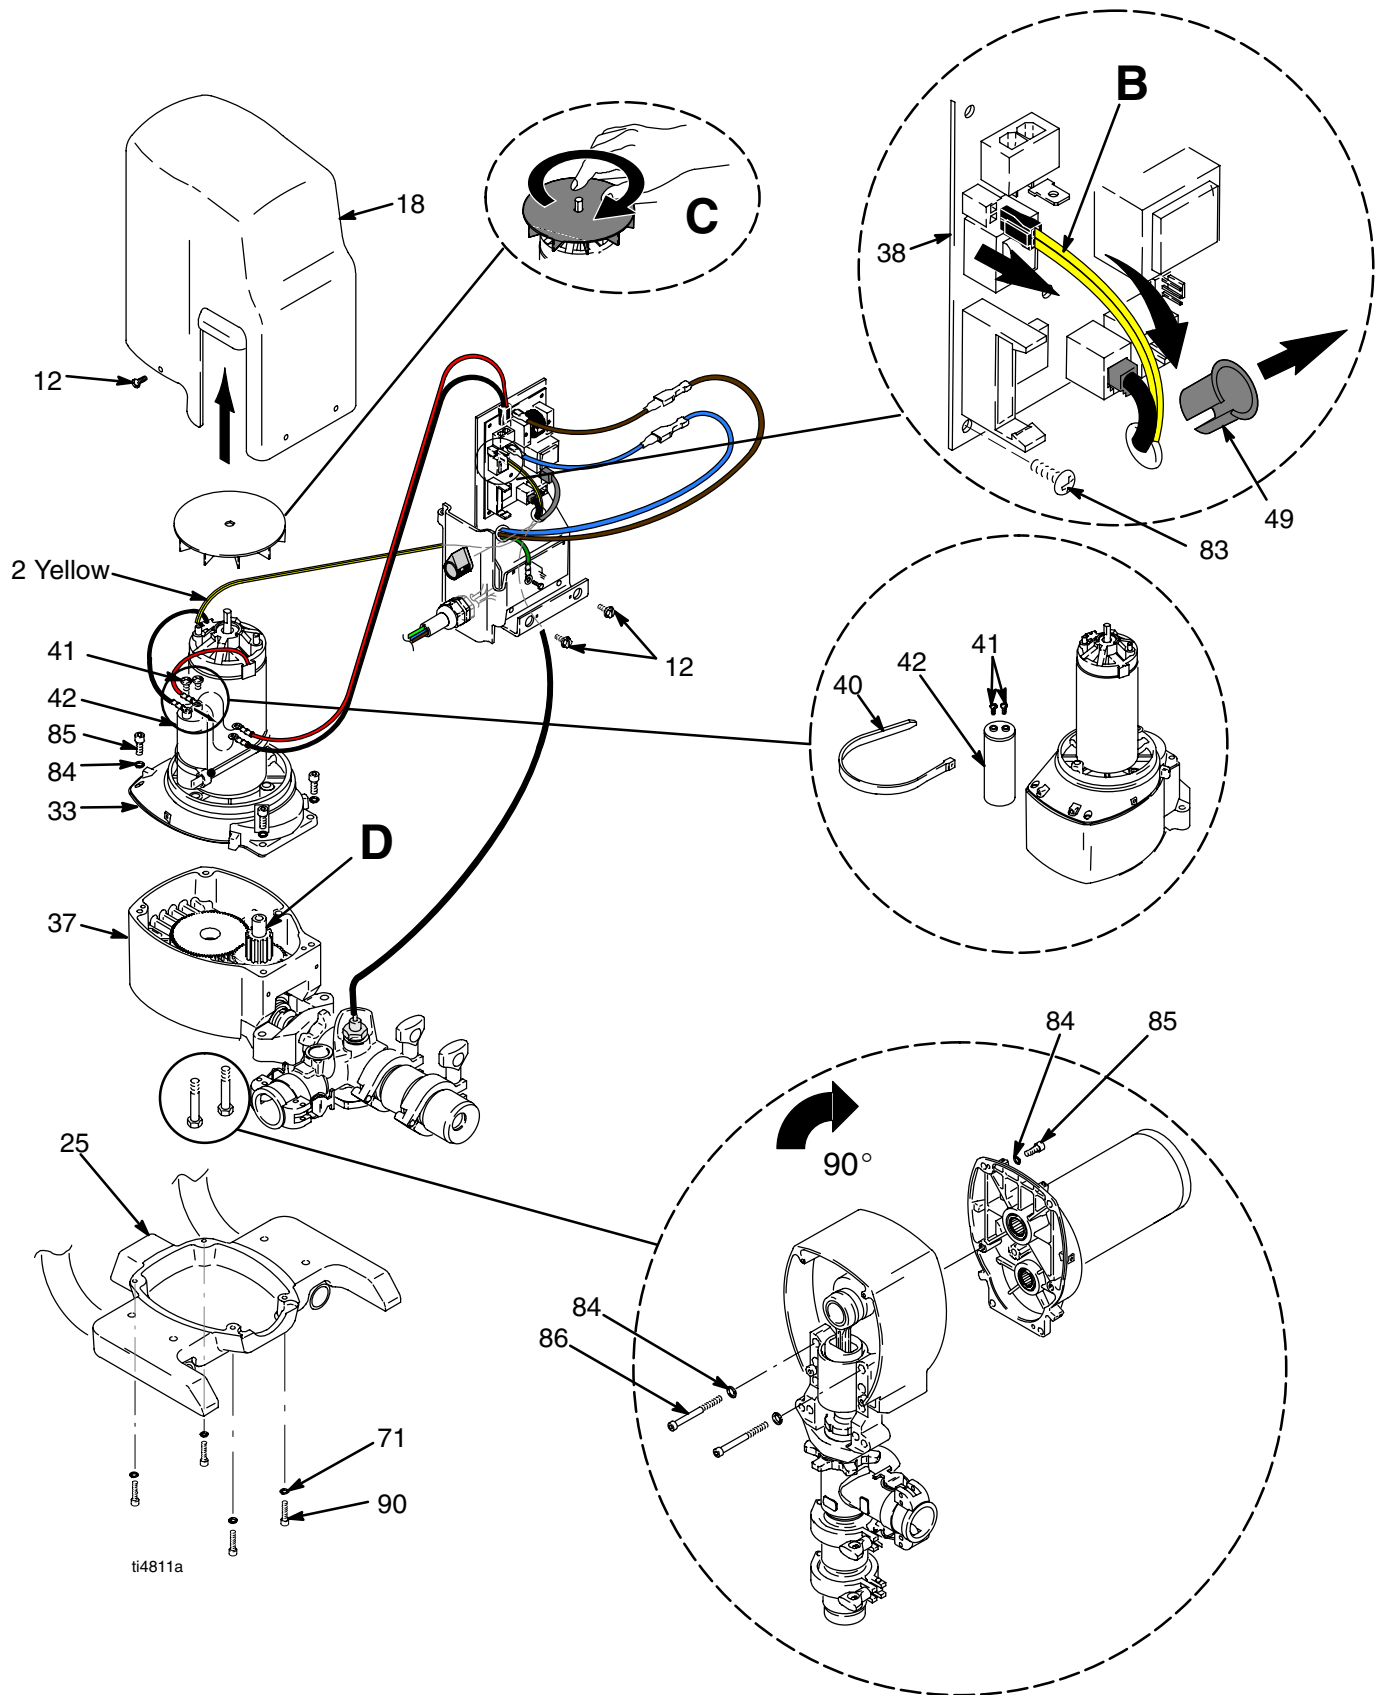

Fig. 6
3. Fig. 6. Remove six screws (12) and motor cover (18).
3. Fig. 6. Remove six screws (12 ) and motor cover (18).
4. Remove two screws (41) and disconnect leads from capacitor (42) to control board (38).
5. Disconnect two yellow leads (B) from control board (38).
6. Pull strain relief (49) out of bracket and thread yellow leads connector through bracket.
7. Remove four screws (90) and washers (71) from gear housing base (25), **Parts Drawing**, page 24.
8. Tip motor and drive housing assembly back and remove two screws (86) and washers (84).
1. Fig. 6. Place new motor (33) on drive housing (37). Rotate fan (C). When gears are felt to mesh, install four washers (84) and screws (85).
2. Tip motor and drive housing assembly back and install two washers (84) and screws (86).
3. Install motor and drive housing to gear housing base (25) with four screws (90) and washers (71).
4. Thread yellow lead (B) through strain relief (49) and connect to control board (38). Install strain relief in bracket.
5. Connect red brush lead (+) and black brush lead (–) according to markings on the motor and capacitor. Install brush lead ends and wire harness (155) lead ends to capacitor with screw (41). See **Wiring Diagram**, page 27 to verify polarity is correct.
6. Install motor cover (18) with five screws (12).
2. Fig. 6. Install motor control board (38) with six screws (83).
3. Connect to motor control board (38):
- Two leads (F) from motor thermal switch.
- Lead (E) to transducer.
- Lead (D) to potentiometer.
5. Install motor cover (18) with five screws (12).